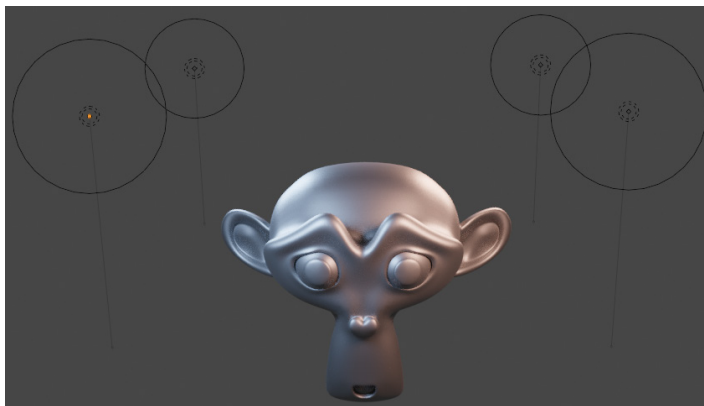

Figure 4.51 – Lighting example 2
*Figure 4.51* shows the same scene, but with colored lighting. Namely, the two point lights on the right side project a light-orange color, and the ones on the left project a light-blue color. As a result, the scene looks much better: